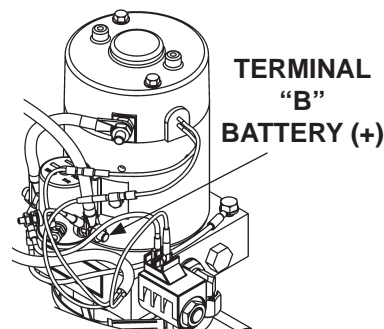

FIG. 54-1
1. Use voltmeter to verify power is being supplied to solenoid terminal "B". Recharge the battery if voltmeter displays less than 12.6 volts (**FIG. 54-1**).